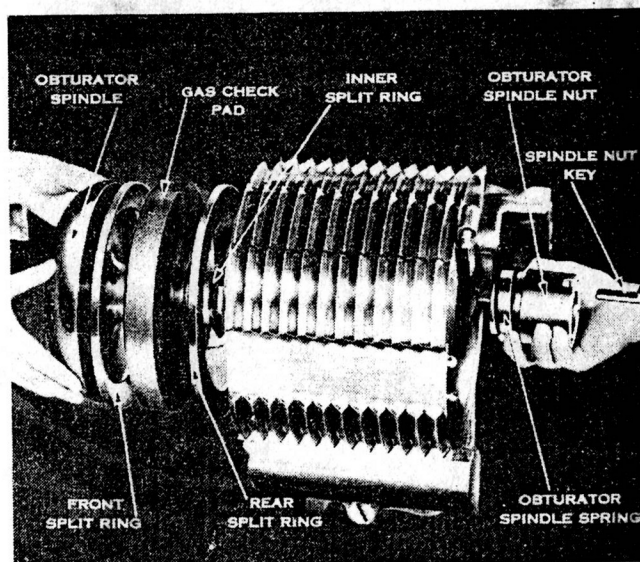

FIGURE 16.—Breechblock and obturator disassembled.
■ 44. BREECH MECHANISM.—*a. General.*—(1) Keep the breech mechanism (fig. 16) clean and well lubricated. When the gun is not in use, the breech cover should be in place to prevent dust and dirt from getting into the recesses of the mechanism.